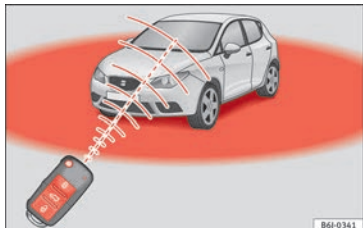

Fig. 131 Range of the radio frequency remote control.
• The radio frequency remote control key functions only when you are within range » Fig. 131.